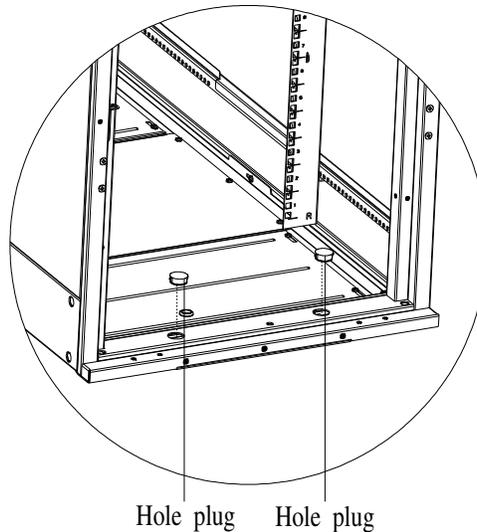

Figure 2-12 Hole Plug Head Mounting
3. After disassembling the pallet, remove four hole plugs from the accessory bag, plug (2 pcs) in the rack front and rear door frames as shown in Figure 2-12.